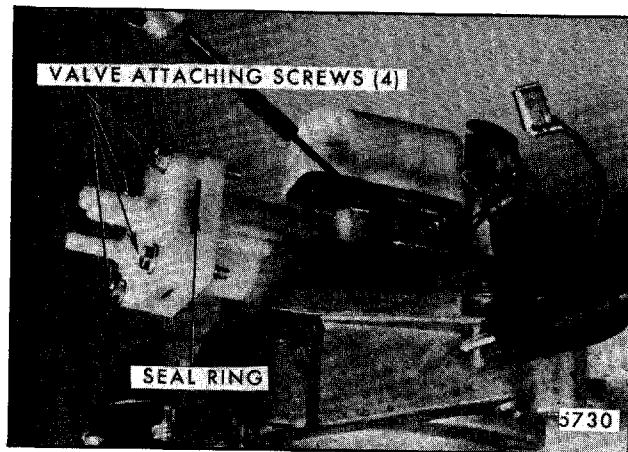

Fig. 2-158-Valve Assembly
- a. Note position of valve assembly pipes relative to the pump housing for reassembly, then remove the four screws that attach valve assembly to housing (Fig. 2-158).